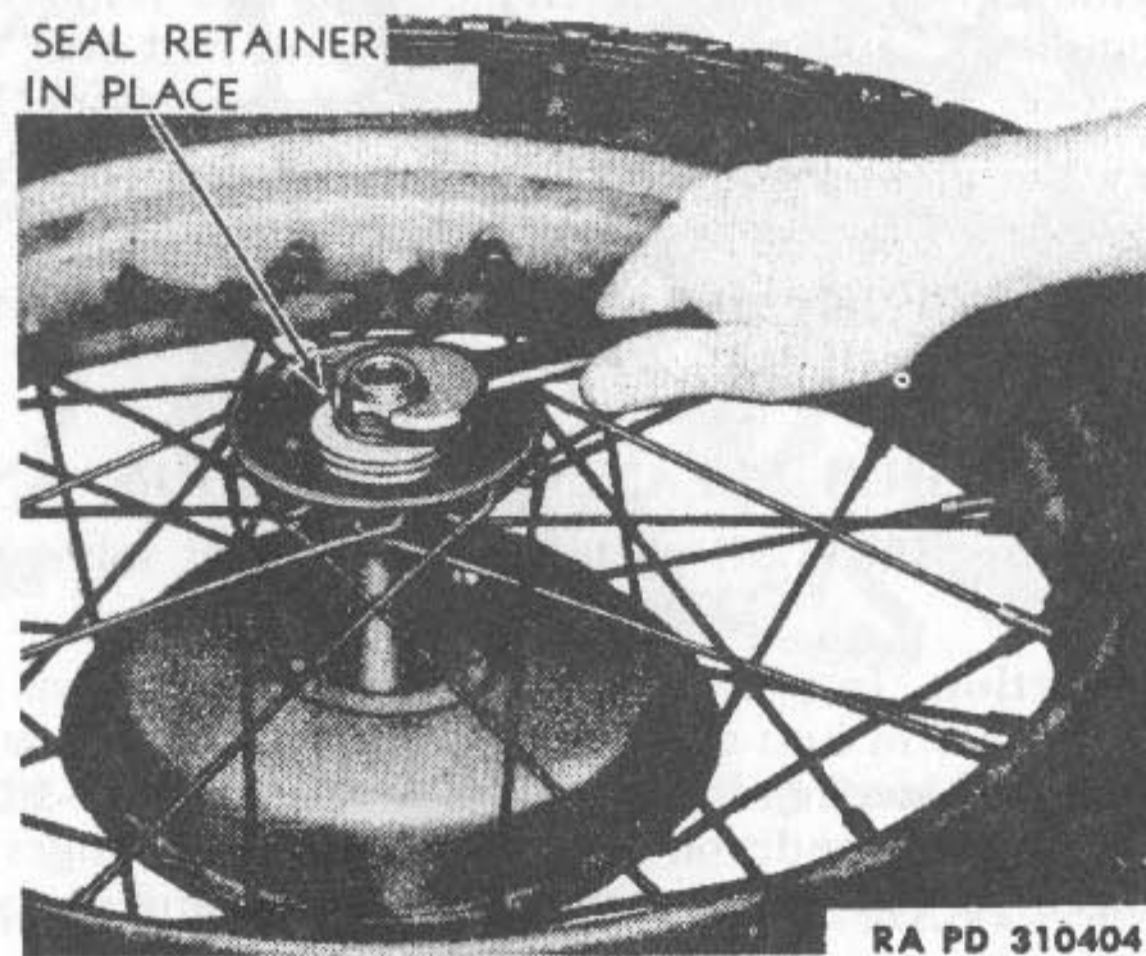

Figure 124—Tightening Bearing Cone Lock Nut After Adjustment
b. Adjustment. Adjust cone so that wheel rim has slight side shake when axle sleeve nut is tight; then remove nut and apply a slight amount of grease or oil to felt seal for initial lubrication and press firmly in place; then install felt seal retaining washer. Nut can now be turned on sleeve and tightened for final assembly (fig. 124).